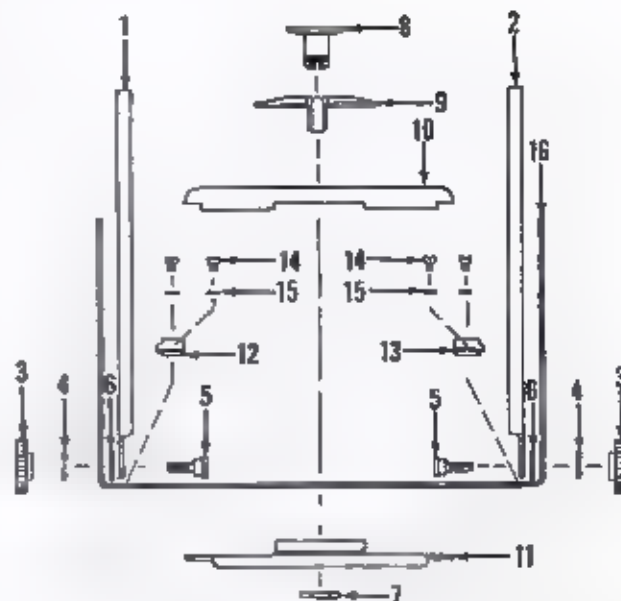

Figure 9A. FRONT STANDARD ASSEMBLY
f. Apply paraffin to two sliding surfaces of two front frame locking studs (4) and assemble studs in opening between bellows base frame and front frame assembly.
g. Spread two sides of front standard assembly (18) and assemble the above sub assembly, using flat washer (3) between front standard and supports on two sides.
h. Assemble two flat washers (2) and two locking knobs (1). Stake ends of locking studs (4).
U. 1. FRONT STANDARD ASSEMBLY - DISASSEMBLY AND REASSEMBLY (Figure 9A)
a. Remove right support (1) and left support (2) by removing locking knobs (3), flat washers (4),